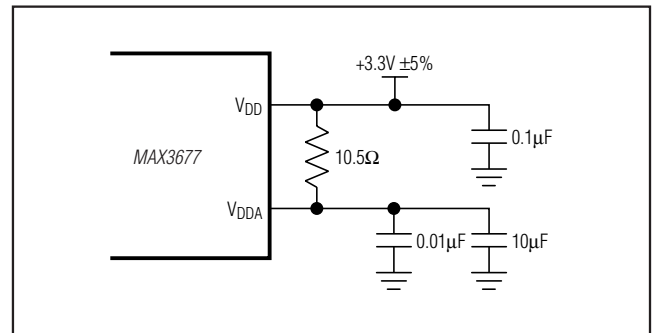

Figure 4. Analog Supply Filtering
- Note 1:** A series resistor of up to 10.5Ω is allowed between V_{DD} and V_{DDA} for filtering supply noise when system power-supply tolerance is $V_{DD} = 3.3V \pm 5\%$. See Figure 4.
The MAX3677 is a mixed analog/digital IC. The PLL contains analog circuitry susceptible to random noise. To take full advantage of on-board filtering and noise attenuation, in addition to excellent on-chip power-supply rejection, this part provides a separate power-supply pin, VDDA, for the VCO circuitry. The purpose of this design technique is to ensure clean input power supply to the VCO circuitry and to improve the overall immunity to power-supply noise. Figure 4 illustrates the recommended power-supply filter network for VDDA. This network requires that the power supply is +3.3V \pm 5%. Decoupling capacitors should be used on all other supply pins and placed as close as possible to the pins for best performance.